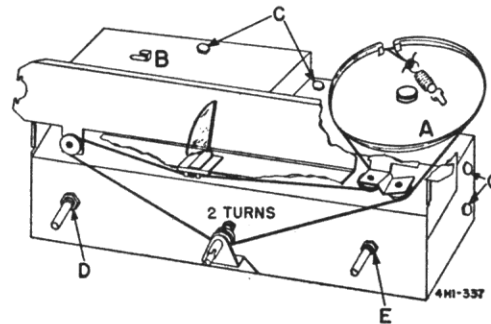

Figure 34. Radio Tuner Showing Chassis Cover and Dial Assembly.
- (1) Unscrew the two hex-head screws connecting the antenna to the metal housing.
- (2) Unsolder the antenna leads from AM loop.
- (3) Remove the metal shield and the wood spacer from between the AM loop antenna and shield.
- (4) Unsolder the FM antenna lead from the terminals on the rear of the cabinet. Then, remove the radio tuner chassis.
- f. Position the dial drum as shown in figure 34; unhook spring at "A"; and keeping tension on dial cord, hook it to tab "B".
For alignment of IF slug adjustments, it will be necessary to disassemble the radio chassis from the escutcheon and housing and also remove the chassis cover and dial scale assembly. See figure 34.